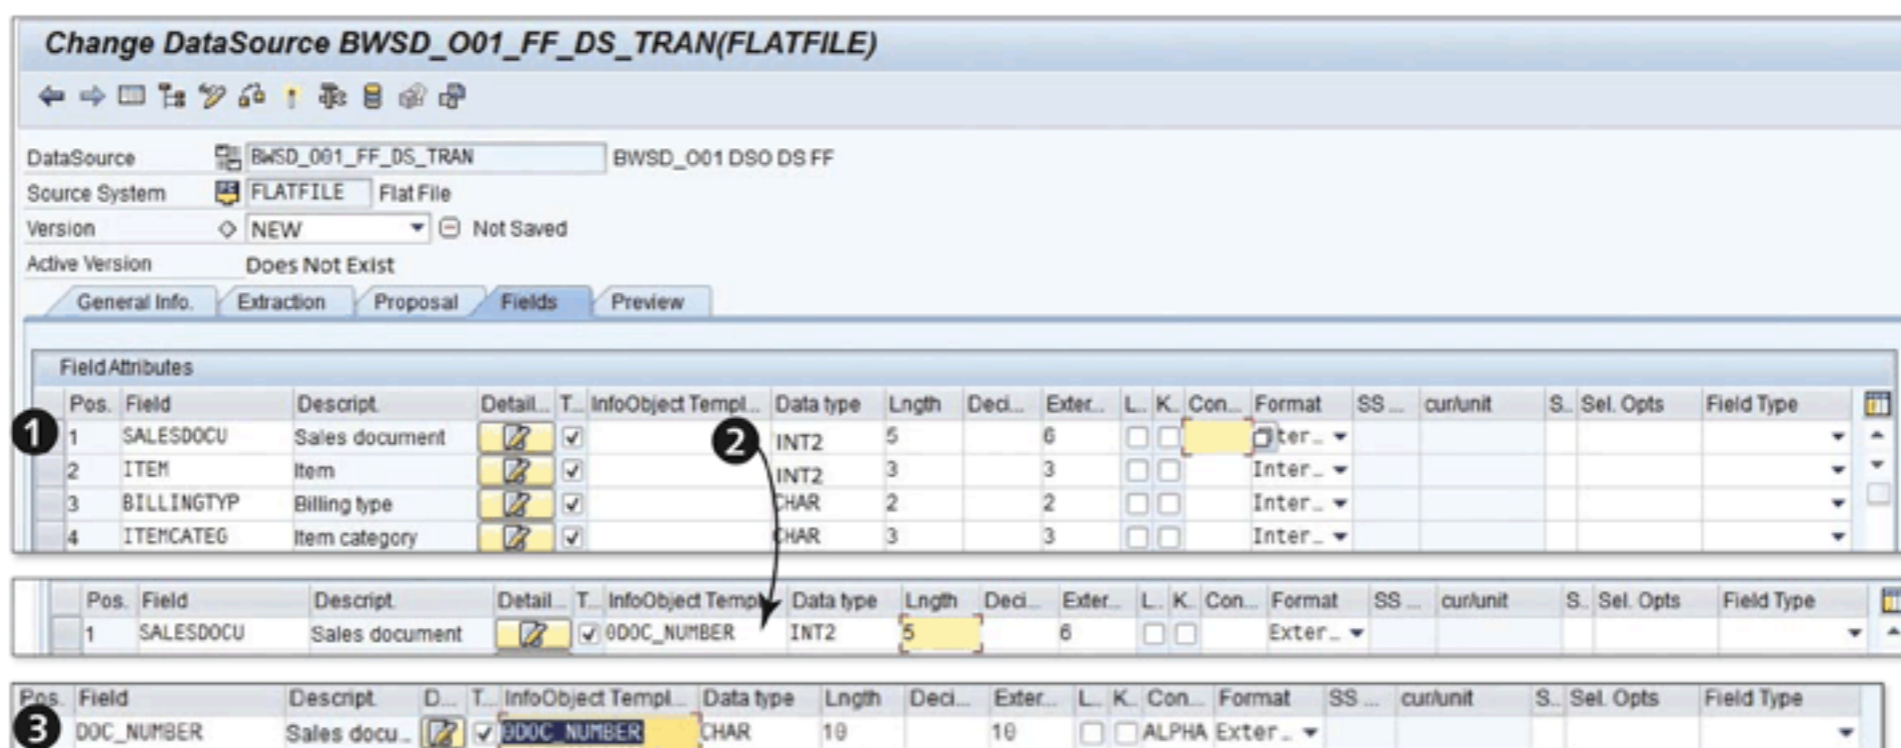

Figure 7.52 Create Transaction DataSource: Fields Tab
In the FIELDS tab, the system has proposed fields and listed them in sequence. As shown in ① of Figure 7.52, field SALESDOCU (or VBELN) is listed in position 1. The definition of this field comes from the InfoObject; we type the associated InfoObject in ②. Type "ODOC_NUMBER" and press Enter. Select YES in the resulting pop-up box; the change is shown in ③. The mapping of field to InfoObject (i.e., field VBELN to InfoObject ODOC_NUMBER) is based on analysis of business content and the Metadata Repository.
You must follow this same process—that is, typing the InfoObject name, pressing , and selecting YES—for each position in Figure 7.52. Enter the names shown in Table 7.4.